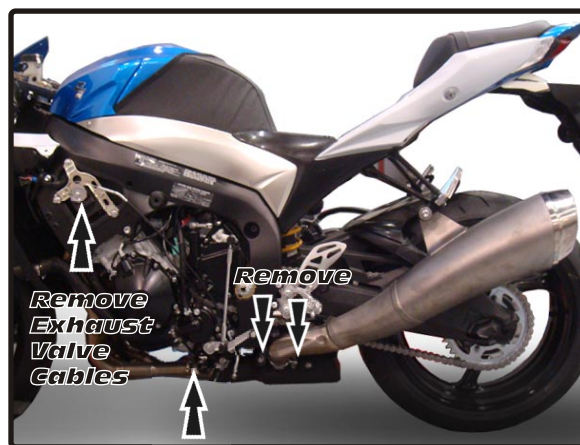

Fig. 1
- 1 Loosen left and right stock collector clamps (see Fig. 1 and 2).
6. Pull out the Black / White wire (black wire with white stripe) from the black coupler (see Photo C and Fig. 1 for wire location).